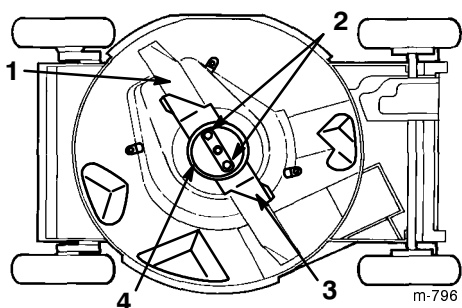

Figure 24
4. Tip the lawn mower onto its **right** side (Fig. 24).
Grasp the end of the blade using a rag or a thickly padded glove. Remove the blade nuts, the anti-scalp cup, the accelerator, and the blade (Fig. 24).
5. Remove two blade nuts, the anti-scalp cup, the accelerator, and the blade (Fig. 24).